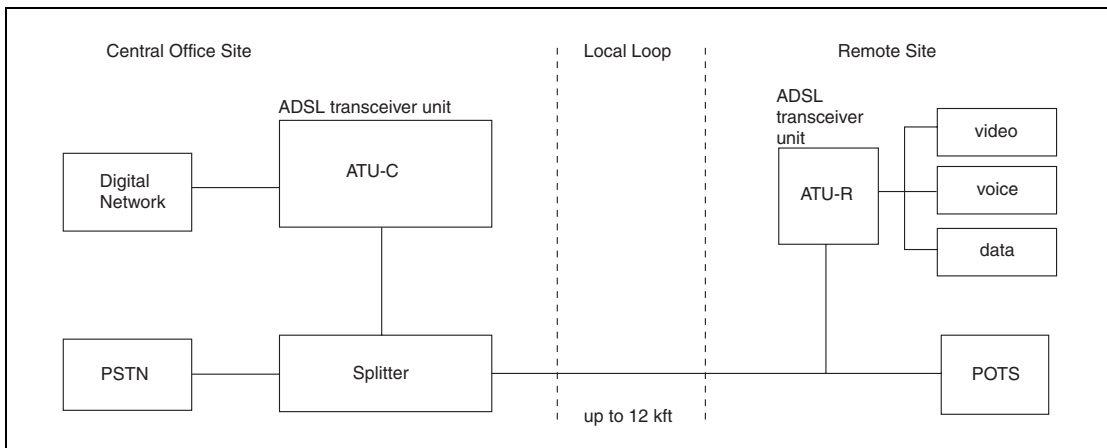
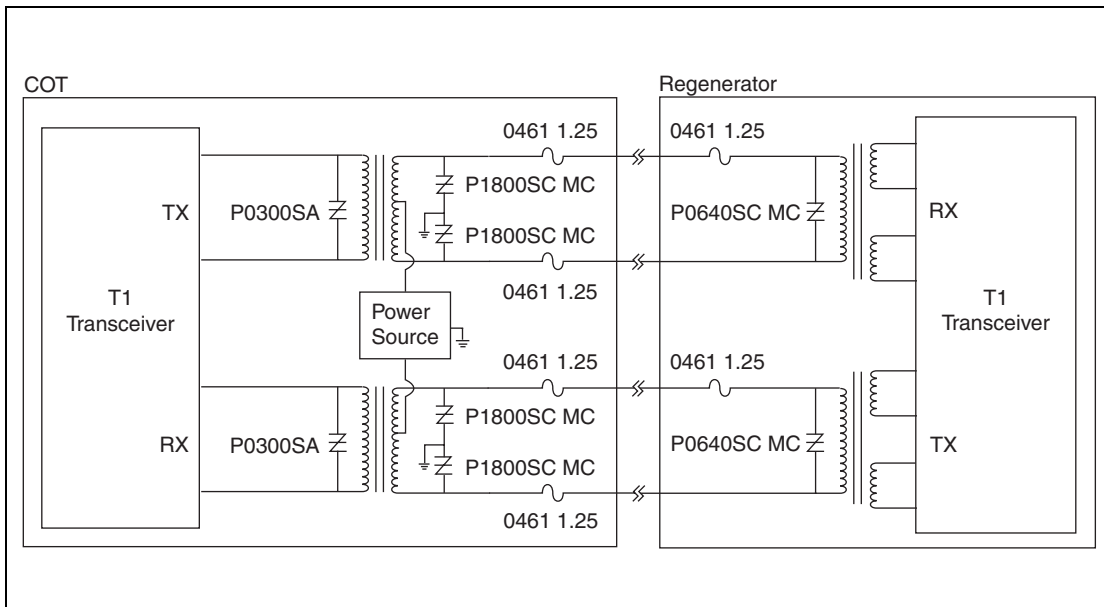

Figure 3.7 ADSL Overview
Figure 3.17 T1/E1 Protection
Transmission equipment should be protected against overvoltages that can exceed 2500 V and surge currents up to 500 A. In Figure 3.7 through Figure 3.17, *SIDACtor* devices were chosen because their associated peak pulse current (I_{PP}) rating is sufficient to withstand the lightning immunity tests of GR 1089 without the additional use of series line impedance. Likewise, the fuse shown in Figure 3.7 through Figure 3.17 was chosen because the amps^2time (I^2t) rating is sufficient to withstand the lightning immunity tests of GR 1089, but low enough to pass GR 1089 current limiting protector test and power cross conditions (both first and second levels).
Asymmetric Digital Subscriber Lines (ADSLs) employ transmission rates up to 6.144 Mbps from the Central Office Terminal (COT) to the Remote Terminal (RT) and up to 640 kbps from the RT to the COT at distances up to 12,000 feet. (Figure 3.7)
Longitudinal protection is required at the Central Office Terminal (COT) interface because of the ground connection used with loop powering. (Figure 3.17) Two P1800SC MC *SIDACtor* devices provide overvoltage protection and two **0461** 1.25 *TeleLink* fuses (one on Tip, one on Ring) provide overcurrent protection. The P1800SC MC device is chosen because its V_{DRM} is compliant with TIA-968-A regulations, Section 4.4.5.2, "Connections with protection paths to ground." These regulations state:
For the transceiver side of the coupling transformer, additional overvoltage protection is shown in Figure 3.17 using the P0300SA SIDACtor device. When an earth ground connection is not used, only metallic protection is required. Metallic protection is satisfied using a single P0640SC MC SIDACtor device across Tip and Ring and a single 0461 1.25 TeleLink fuse on either Tip or Ring.